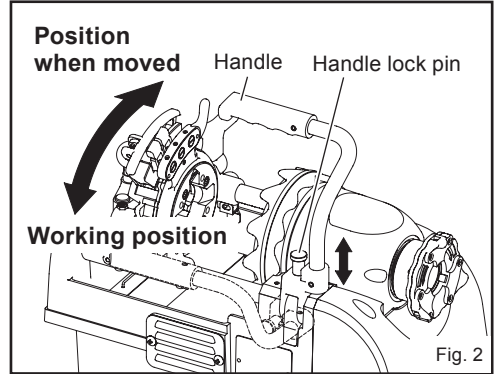

Fig. 2
1. Transportation (Fig. 2)
- Always position the handle as shown in Fig. 2 when cutting threads or performing other similar work.
Ensure the handle is lowered when the machine is in use. (Pg. 6, Fig. 2)